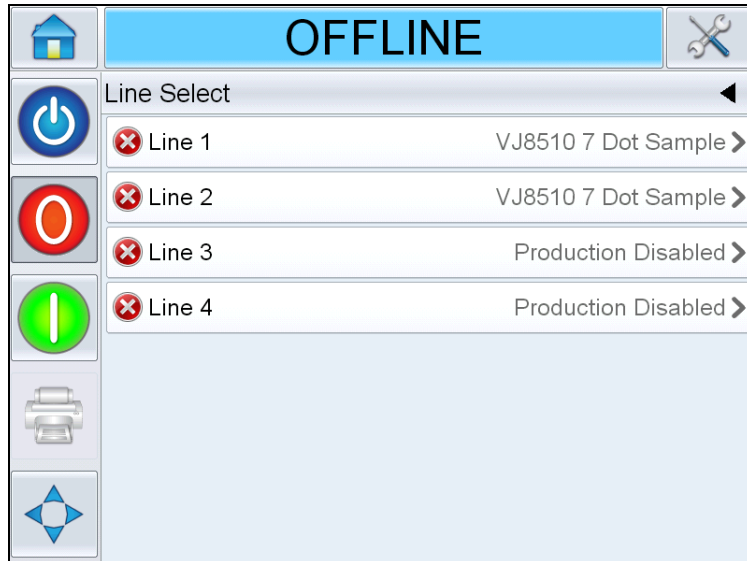

Figure 6-31: Line Select Page
- a. Touch  on the *Line Select* page (Figure 6-31).